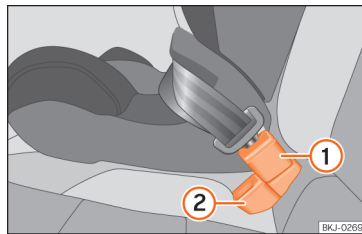

Fig. 43 Position of the belt buckle on the rear seat
- ① Belt buckle for the middle seat
- ② Belt buckle for the side seat
- Place the middle seat's belt buckle »» Fig. 43 ① behind the side seat's belt buckle »» Fig. 43 ②.
- Plug the middle seat's seat belt into the middle seat's belt buckle »» Fig. 43 ① and make sure it clicks in place.
- For seat belts to be correctly fitted, the buckles must not be twisted »» Fig. 43.